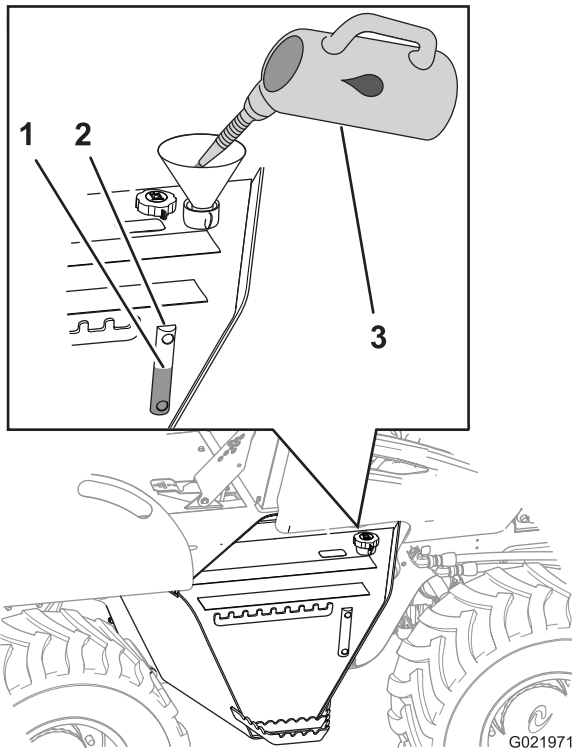

Figure 94
- Fill the hydraulic-fluid reservoir with the specified hydraulic fluid until the fluid level is at the midpoint of the sight gauge (Figure 94).
- Install the fill cap/breather (Figure 94).